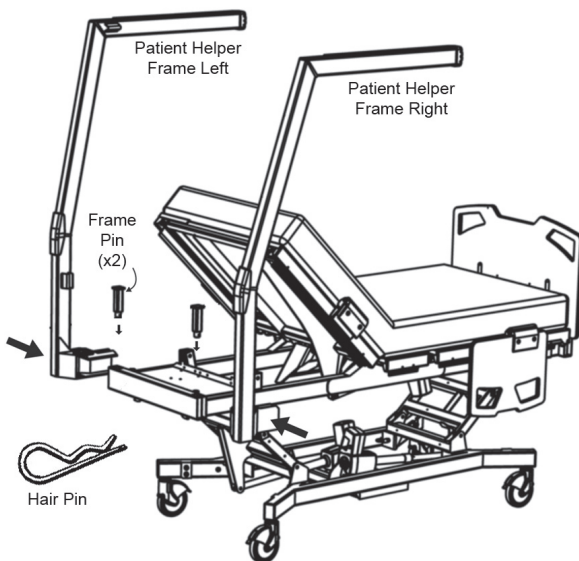

Figure 2
2. Drop (1) frame pin in place securing the left patient helper frame to the bed frame (see Figure 2). Secure frame pin with hair pin.